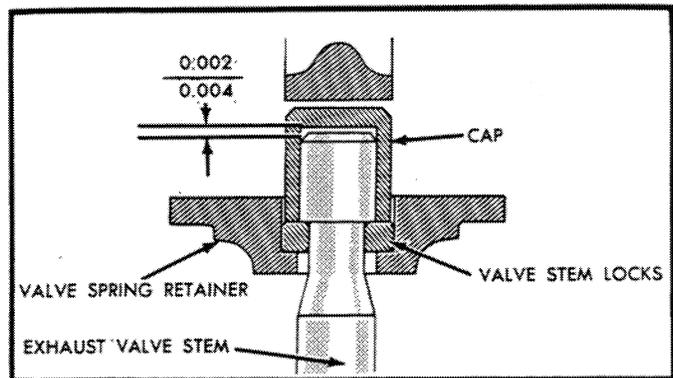

Figure 14
2. Position the valve spring retainer and valve retainer locks on the exhaust valve stem as shown in Figure 14. Exert pressure against the valve spring retainer to seat the locks against the valve stem. Install the rotating cap on the end of the valve stem and press firmly on the cap while exerting pressure on the spring retainer. If no movement is felt at the retainer, the cap is seating at the valve. Remove enough stock from the end of the valve stem to obtain a clearance of 0.002–0.004" between the cap and stem, Figure 14. Keep each rotating cap with